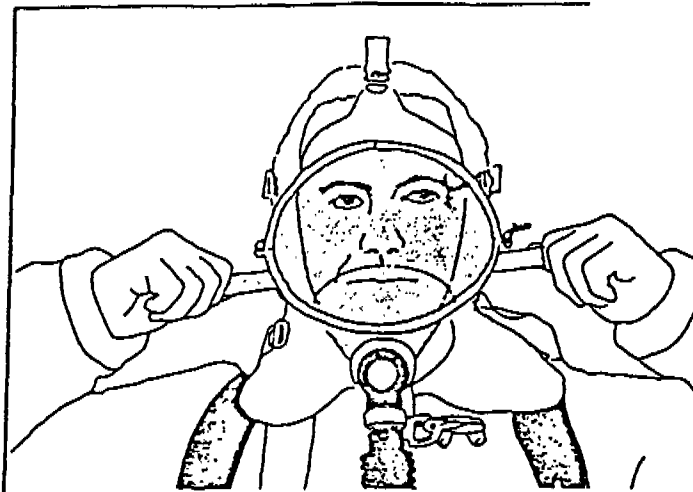

Figure 7
14. Place your chin against the chin stop. Tighten the chin straps; then tighten the temple straps, and finally the top strap. Do not overtighten the straps. (Figure 7).